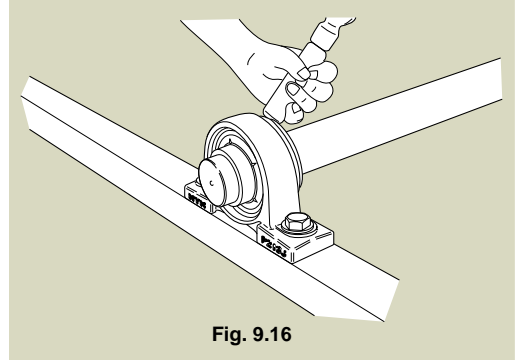

Fig. 9.16
- 4) Next take the cover which has been passed along the shaft and press it into the housing as follows: Be careful not to strike the surface of the steel cover directly with a steel hammer but use a synthetic resin or wood block in between. Do not strike only in one place but tap the cover all the way round until it is firmly seated in the housing. (Fig. 9.16). The cast iron cover is fastened with three bolts.